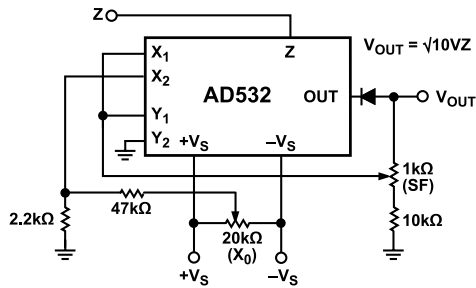

Figure 17. Square Rooter Connection
The connections for square root mode are shown in Figure 17. Similar to the divide mode, the multiplier cell is connected in the feedback of the op amp by connecting the output back to both the X and Y inputs. The diode D_1 is connected as shown to prevent latch-up as Z_{IN} approaches 0 V. In this case, the V_{OS} adjustment is made with $Z_{IN} = +0.1$ V dc, adjusting V_{OS} to obtain -1.0 V dc in the output, $V_{OUT} = -\sqrt{10 \text{ V } Z}$. For optimum performance, gain (SF) and offset (X_0) adjustments are recommended as shown and explained in Table 5.